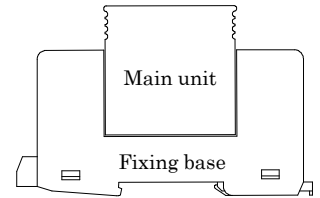

Fig.1 SPD main unit and fixing base
- ① Do not install the SPD on circuits where it is subjected to voltages above specified MCOV.
- ② Do not use the SPD above the peak value of MCOV ($U_c \times \sqrt{2}$ V), if DC or AC voltage has incomplete wave shapes.
- ③ Do not use the SPD in the circuits that are subjected to frequent current surges with a very short interval between them.
- ④ Do not expose the SPD to high temperature such as direct sunshine or install adjacent to hot object. (Application temperature : -40°C to 70°C)
- ⑤ Do not expose the SPD to adverse environmental conditions such as rain, wind, steam, dust, and salty air.
- ⑥ Do not expose the SPD to acid, alkali, corrosion gas, solvent, oil, dust, and salt.
- ⑦ Handle the SPD carefully to prevent mechanical shock (e.g. drop) or vibration, as this may cause cracking of its plastic housing.
- b) When measuring an insulation resistance of the SPD or conducting voltage withstand test, disconnect the SPD main unit from the fixing base. (Ref: Fig.1)